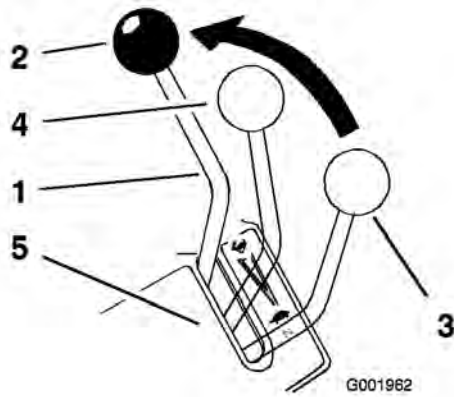

Figure 44
4. Move the speed control lever (located on the console) to the full forward position (Figure 44).
10. Check the travel of the shift lever in the control panel slot. The shift lever travel should be approximately centered in the control panel slot (Figure 44).
2. Move the speed control lever to the neutral position (Figure 44).